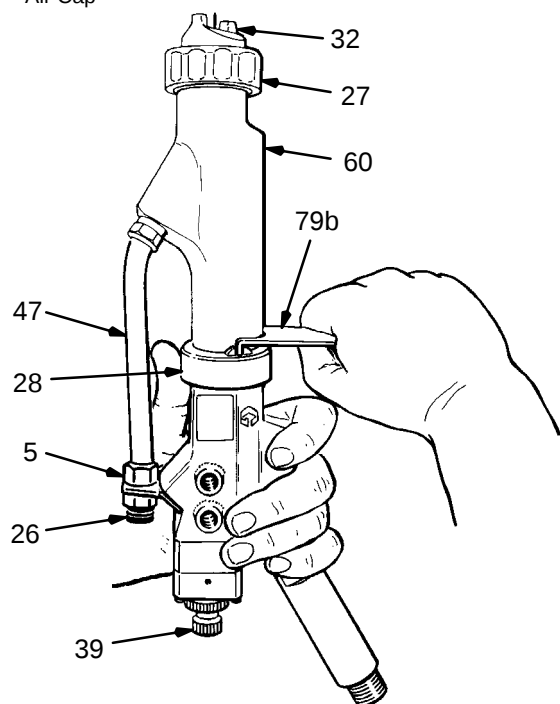
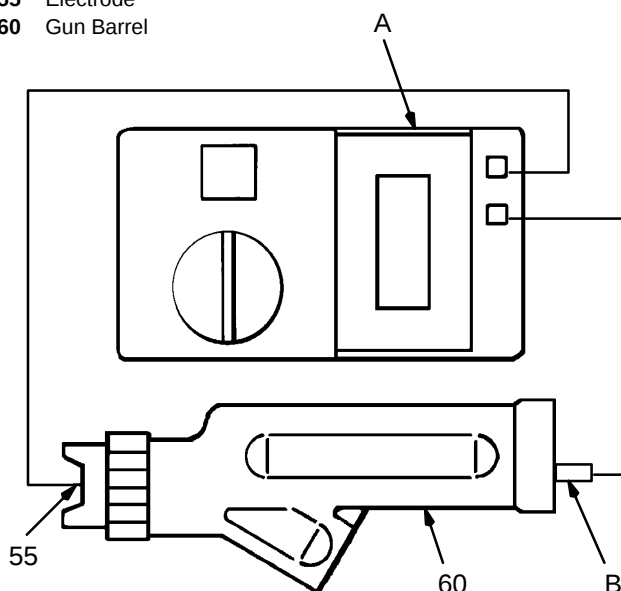

Fig 9
Fig 12
2. Disconnect the fluid tube fitting (5) from the adapter (26). See Fig 9. Pull the fluid tube (47) out of the adapter (26).
3. Loosen the barrel nut (28), using wrench (79b) supplied.
4. Pull the gun barrel (60) forward, off the resistor tube. Be careful not to lose the gasket (24). See Fig 12.s
2. Assemble the barrel to the actuator, tightening the barrel retaining nut (28) with the wrench (79b). See Fig 9.
The conductive spring (58, 66) and Viton® o-ring (6, 7) *MUST* be in place or the gun will malfunction. See Fig 12, page 18.
5. Assemble the gun barrel to the actuator, tightening the barrel nut (28) with the wrench (79b). See Fig 9.
6. Place the fluid tube (47) back into the adapter (26), and tighten the tube fitting (5) over the adapter.
2. Insert a conductive rod (B) into the gun barrel and against the metal contact in the front of the barrel. See Fig 12.
3. Measure the resistance between the conductive rod (B) and the electrode (55). The resistance should be 20–30 megohms. If the resistance is correct, refer to the **Electrical Troubleshooting Chart** for other possible causes of poor performance, or contact the nearest authorized service agency.
4. If the resistance is outside the specified range, remove the electrode (55). See **Electrode Replacement**, page 14. Measure the resistance between the conductive rod (B) and the resistor in the inside diameter of the resistor stud (83).
5. The resistance should be 20–30 megohms. If the resistance is correct, the electrode is defective and must be replaced. If the resistance is outside the specified range, the resistor is defective and the resistor stud (83) must be replaced. See **Resistor Stud Replacement**, page 18.
9. Install the retainer (52) over the resistor tube and into the gun body.
10. Slide the o-ring (6) into place over resistor tube (48).
11. With the spring (58) and gasket (24) in place, slide the gun barrel (60) over the resistor tube (48). Tighten the barrel nut (28) with the wrench (79b). See Fig 9.